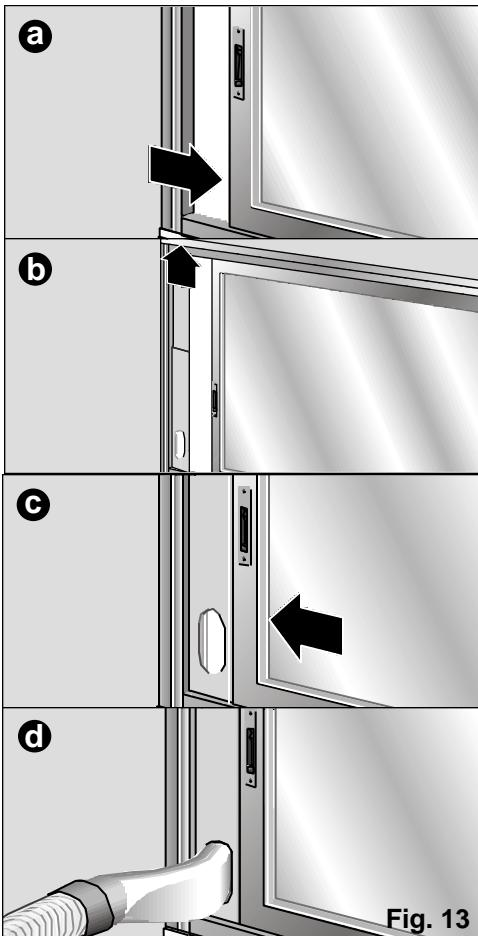

Fig. 13
- ❑ The sliding window/balcony installation accessory supplied with your appliance can also be used (See "Description of accessories"), Fig. 13 : a, b, c, d. This accessory can be used for both horizontal and vertical windows.